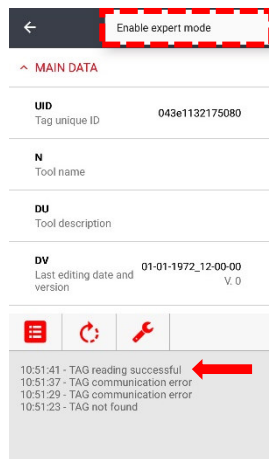

Figure 7
- Place RBQC on the back of the smartphone (where NFC reader is placed) and move RBQC slowly until will appears 'TAG reading successful' (Figure 7). Then 'MAIN DATA' can be analyzed. In the upper right part of the screen there is an icon the three points  and by clicking on it the 'Enable expert mode' text will appear. By checking this option, the full list of data and parameters becomes visible and editable. Please note that the 'Enable expert mode' option is not accessible without a correct log in and in this case the reading of the 'MAIN DATA' section in the only possible operation.